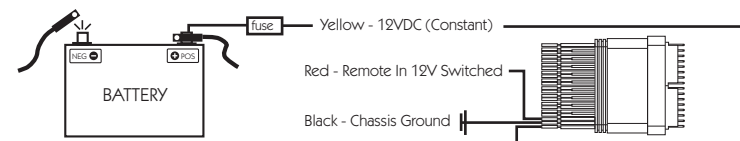

Fig. 3
5. Connect the black (Chassis Ground) wire from the re-Q5 to the chassis of the vehicle. Remove the paint at the ground location to connect directly to the bare metal of the chassis. When the re-Q5 is grounded at the same location as the amplifier, it functions as a ground loop isolator (Fig. 3).